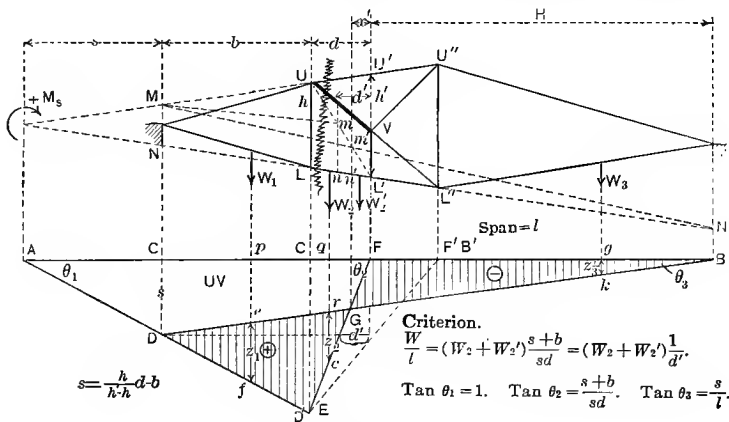

FIG. 11.
**Upper Segment of Diagonal in Sub-hanger Truss.**—The member  $UV$  in Fig. 11, is a part of the diagonal  $UL''$  of
the main truss and also a chord member of the auxiliary truss  $UVU''$ . The influence diagram for  $UL'$  is  $DEF'BD$  and that for the chord  $UV$  is  $D'FB'$ . The combination of these two diagrams gives the influence diagram  $DEFBD$ . This diagram is constructed according to the general rule when the horizontal projection of  $UV$  is taken as the length of the *cut stringer*. The graphical determination of  $x'$  and  $d'$  requires no explanation as the constructions are evident in Fig. 11.